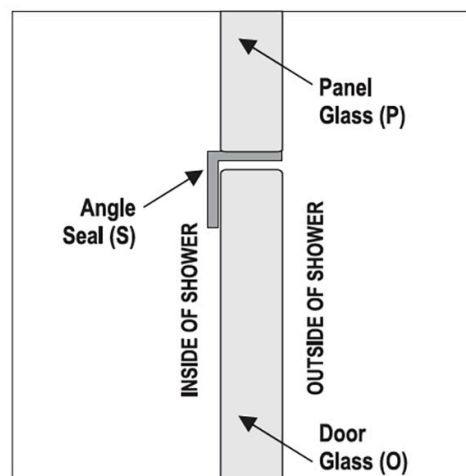

FIGURE 29C
ZV Angle Seal (M) - This is to be placed on handle side of door; **DIRECTLY** to the Panel Glass (P) (make sure glass is clean and dry before application). (See Figure 29C)
CAUTION: By using this angle seal, your door will no longer be able to swing both in and out. (See Figure 29C)